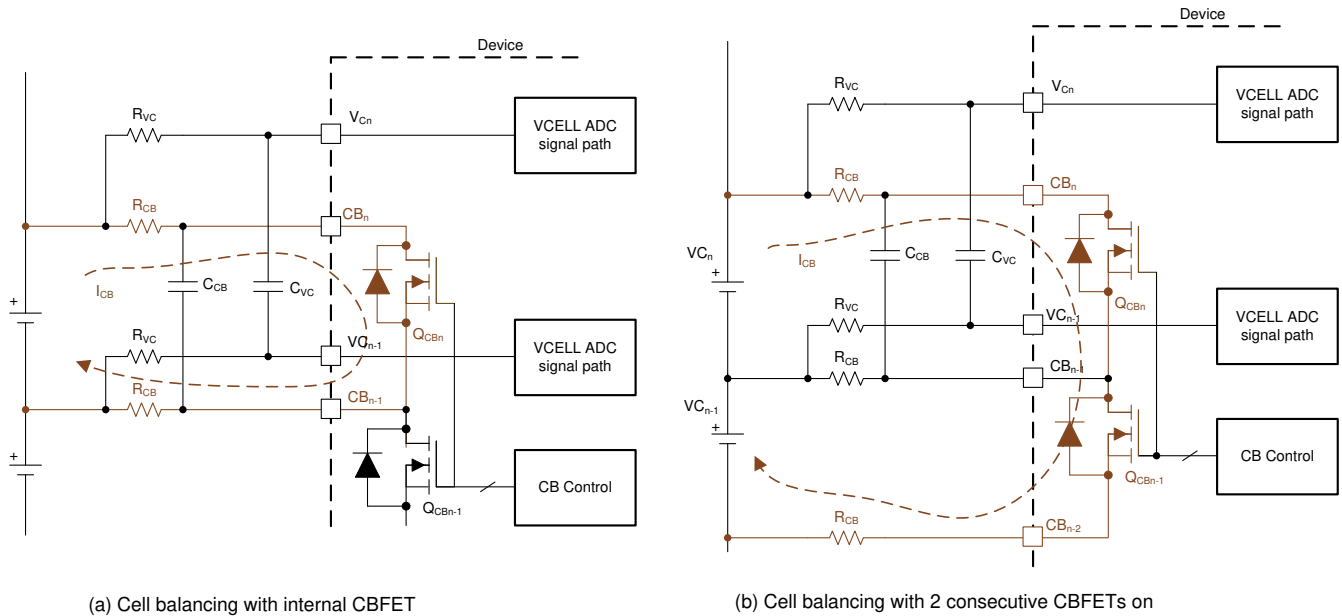

Figure 9-14. Internal Cell Balancing and the Flow of Balancing Current
- Balancing with no consecutive CBFET on (Figure 9-14 (a)): $I_{CB} = V_{Cell} / ((2 \times R_{CB}) + R_{dson_{QCB}})$
- Balancing with two consecutive CBFETs on (Figure 9-14 (b)): $I_{CB} = (\text{Sum of two } V_{CELL}) / ((2 \times R_{CB}) + R_{dson_{QCBn}} + R_{dson_{(QCBn-1)}})$
- Manual balancing control ($[AUTO_BAL] = 0$): With this method, the device will turn on the CBFETs that have non-zero balancing timer settings once $[BAL_GO] = 1$ is received. There is no odd and even channel switching during the cell balancing and the $BAL_CTRL1[DUTY2:0]$ setting does not apply under this control. Host MCU can enable two consecutive CBFETs with this method and a maximum of eight CBFETs can be enabled. When two consecutive CBFETs are enabled with both channels connected to battery cells, the balancing current is significantly different compared to no adjacent CBFET being on (Figure 9-14). The $DEV_CONF[NO_ADJ_CB]$ bit is provided to avoid inadvertent enabling of an adjacent CBFET for a system that is not intended to have an adjacent channel on for balancing. In this control method, the device is relying on the MCU to enable the proper channels. If the MCU sends $[BAL_GO] = 1$ but the CBFETs are enabled with an invalid condition, the device will not start balancing and will set $BAL_STAT[INVALID_CBCONF] = 1$. Invalid configurations are either: